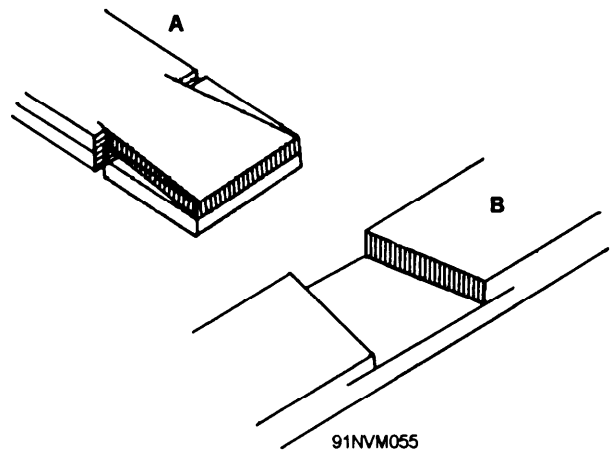

Figure 3-29.—Making a half-dovetail joint.
- Lay off this angle from the end corners of the lapping member to the shoulder line (fig. 3-29). Saw out the waste as shown. The lapping member now has a dovetail on it. Place this dovetail over the other member, in the position it is supposed to